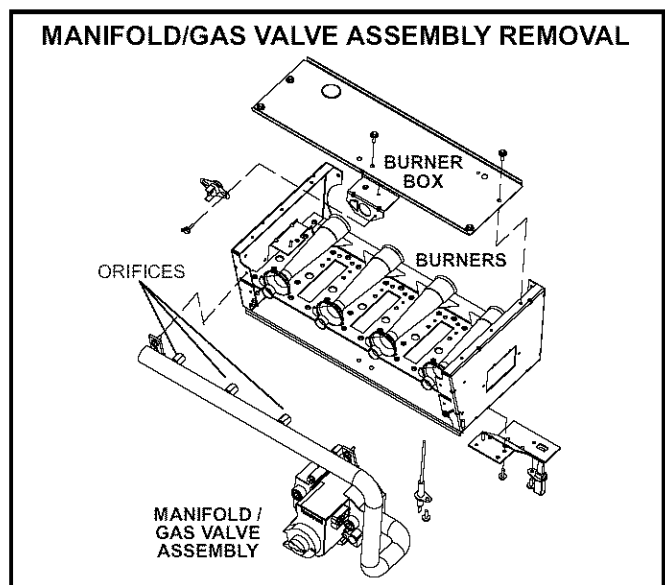

FIGURE 1
- 5 - Replace the main burner orifices with the provided orifices (.052). See figure 1.